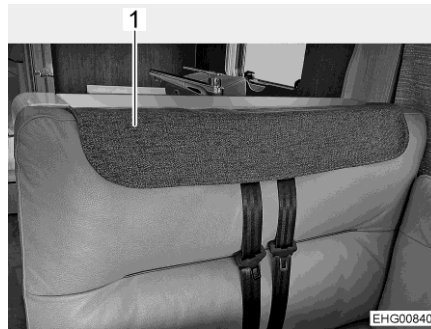

Fig. 60 Seat belt cover attached
When the vehicle has been positioned, the headrests can be removed from the back cushion of the bench to allow for more comfortable seating. The openings for the headrests and the cut-out for the seat belts can then be covered with a seat belt cover (Fig. 60,1).
- Attach the seat belt cover over the cut-out for the seat belts (Fig. 60).